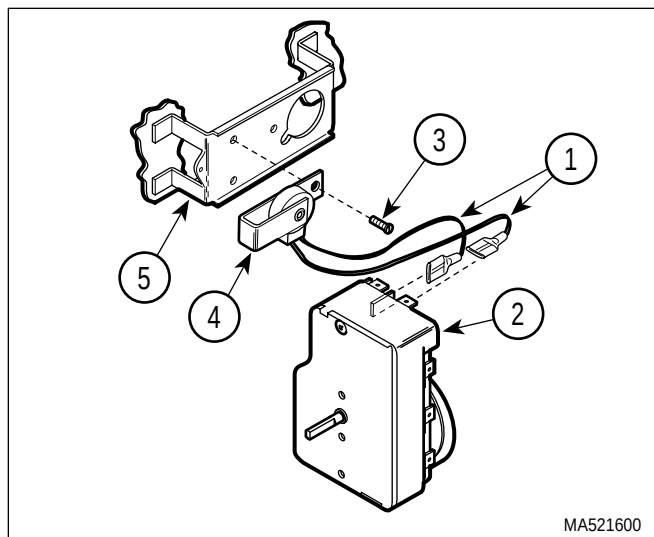

Figure 4-3. Timer Buzzer Removal / Installation
- (1) Remove cover assembly (Refer to para 4.2).
- (2) Tag and disconnect two wires (1, Figure 4-3) from timer assembly (2).
- (3) Remove screw (3) and timer buzzer (4) from chamber assembly (5).